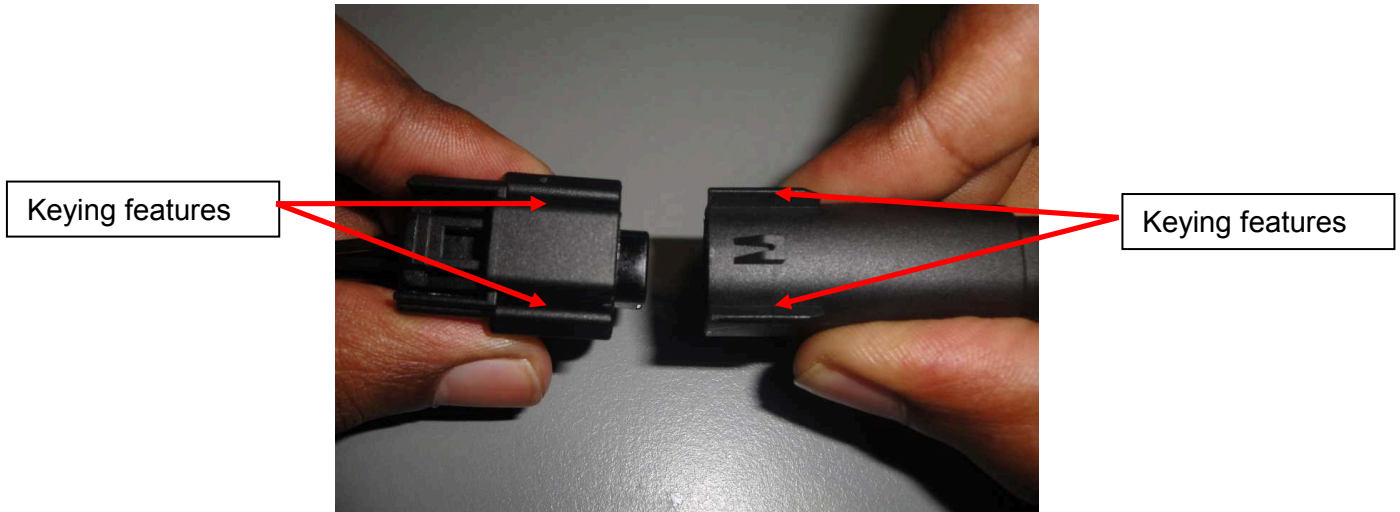

Fig 1
- 1) Hold the male connector assembly and receptacle assembly as shown in Fig.1. Align connector system keying features and begin mating process along the same axis by sliding the two connectors together.